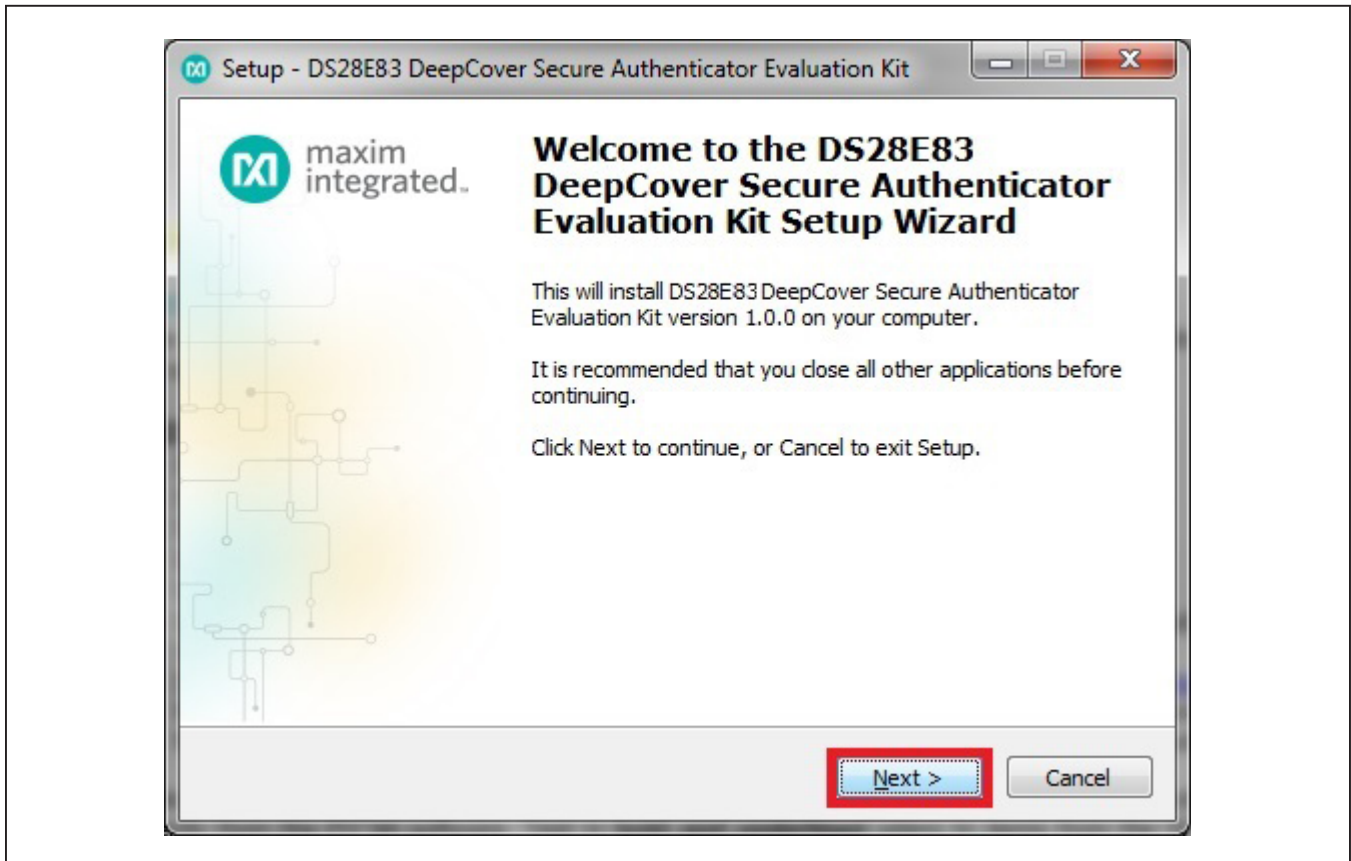

Figure 2. DS28E83 Setup Wizard
3) The setup wizard opens; click on **Next**, as shown in Figure 2.